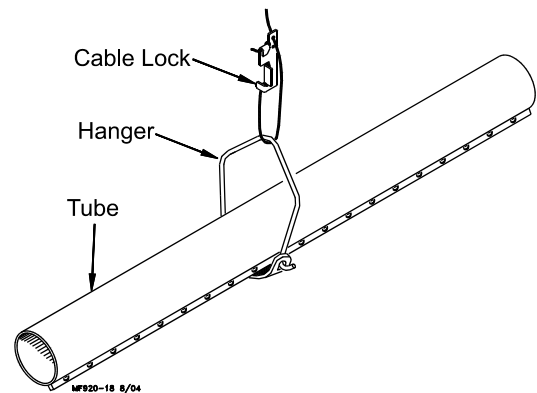

Figure 34. Hanger Installation
5. Install the Hangers on the feeder tube at 8' (2.4 m) spacings determined by the suspension drop lines. Figure 34 shows the proper installation of the Hanger Assembly. Make sure the outlet drop hole is downward when the Hangers are installed, otherwise feed will not be allowed to drop into the feeder pan.